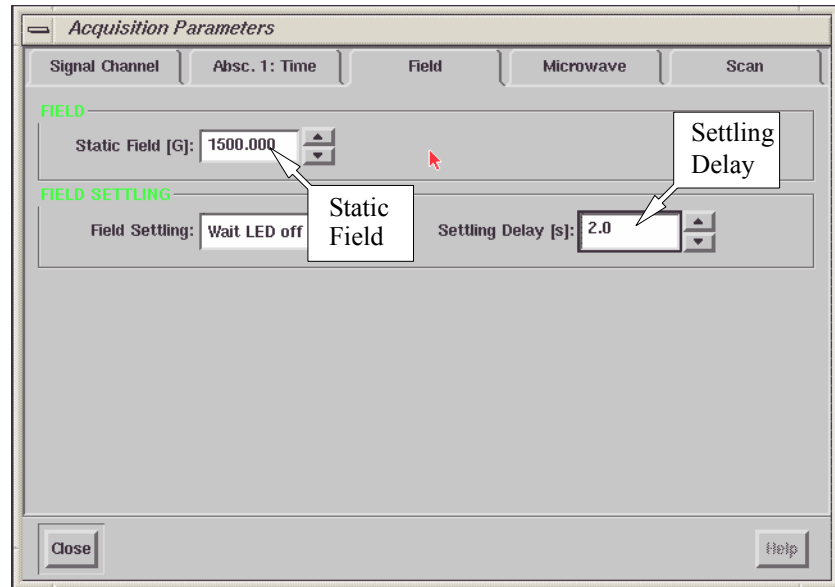

Figure 3-11 Setting the magnetic field.
4. **Set the Magnetic Field.** Click the Field tab. Set the Static Field to 1500 G. (See Figure 3-11.) Since a very long time constant will be used, set a settling delay time of 2-5 seconds to avoid overshoots or undershoots in the first few data points when you acquire the spectrum.